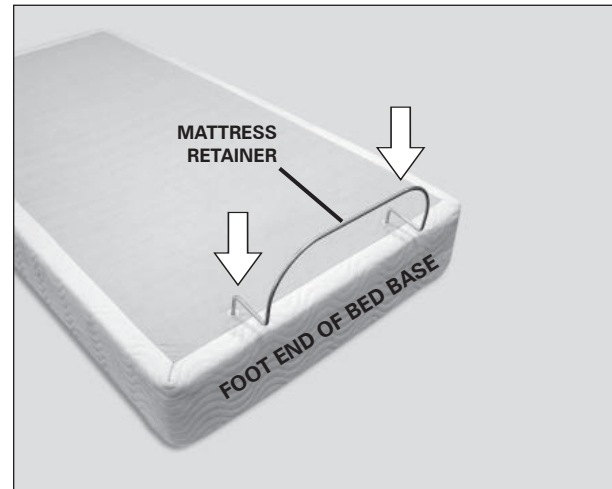

FIGURE 3: Mattress retainer installation.
- Place mattress retainer ends into grommeted holes in top surface of adjustable bed base (**FIGURES 3 and 4**). Press down until horizontal retainer section is flush against bed base.